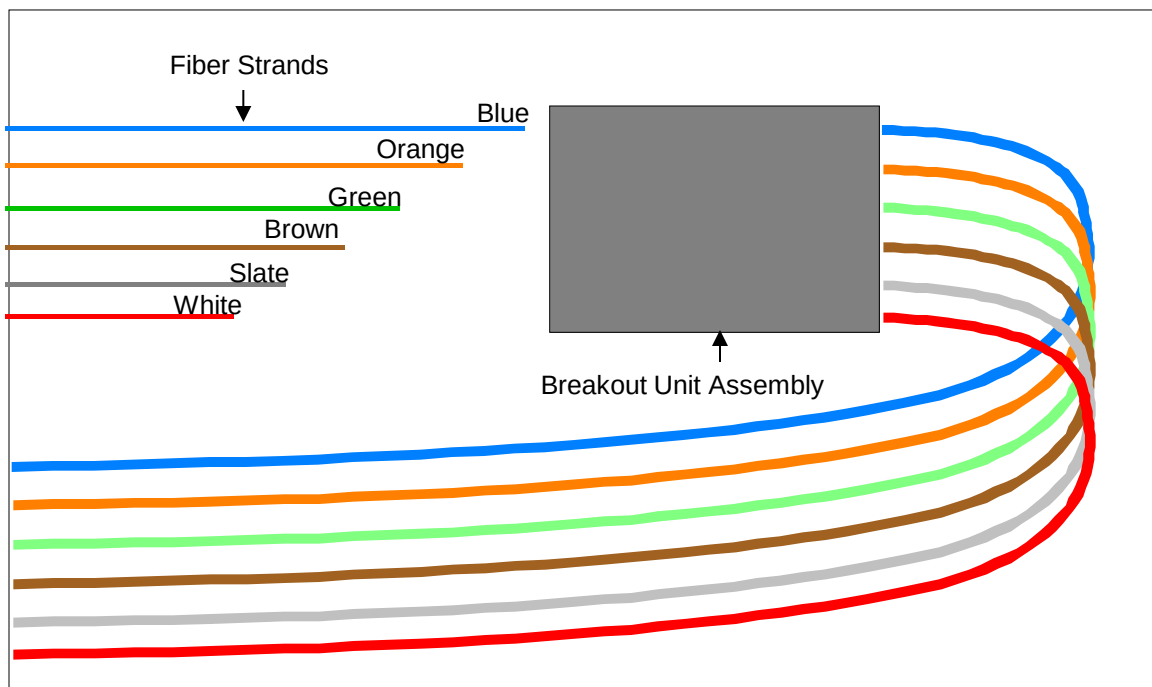

Figure 5
7.2 Choose one of the fiber bundle nylon sub-units and, on a clean work surface, lay out the strands in a staggered color-order sequence. Work carefully and ensure strands are not crossed or twisted. **See Fig. 5.**